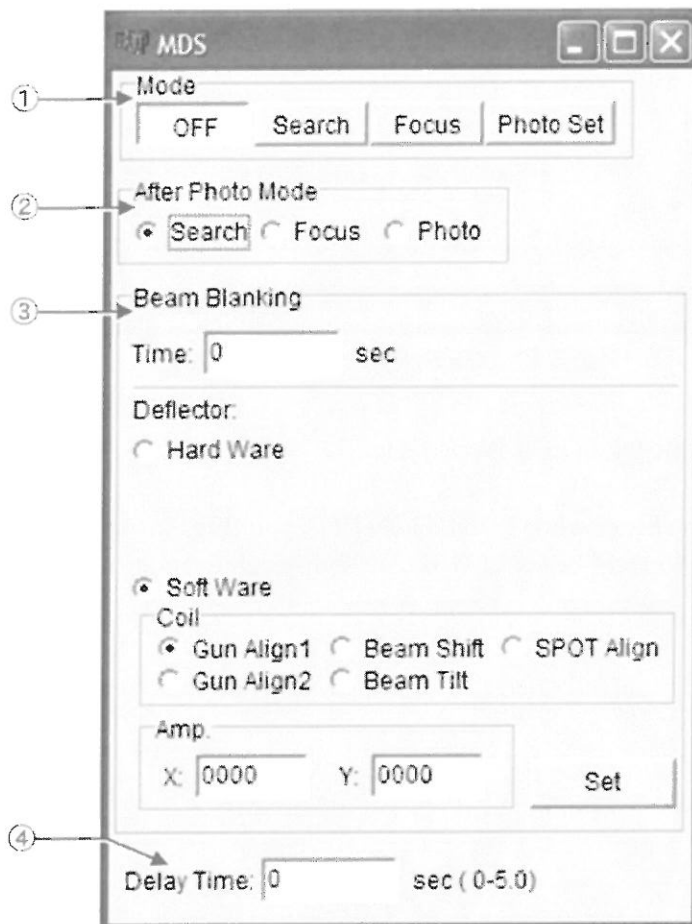

Fig. 4.58 MDS window
It is displayed when Option in the TEM Controller menu bar is selected (Fig. 4.20-①) (Fig. 4.58).